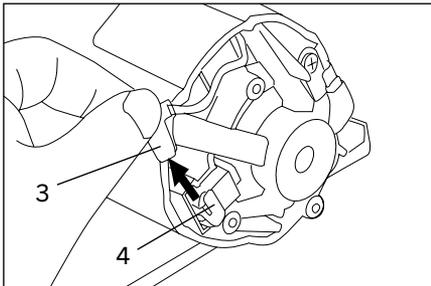

Fig. 20
3. Remove the carbon brush connection wire (3) from brush terminal (4) (Fig.20).